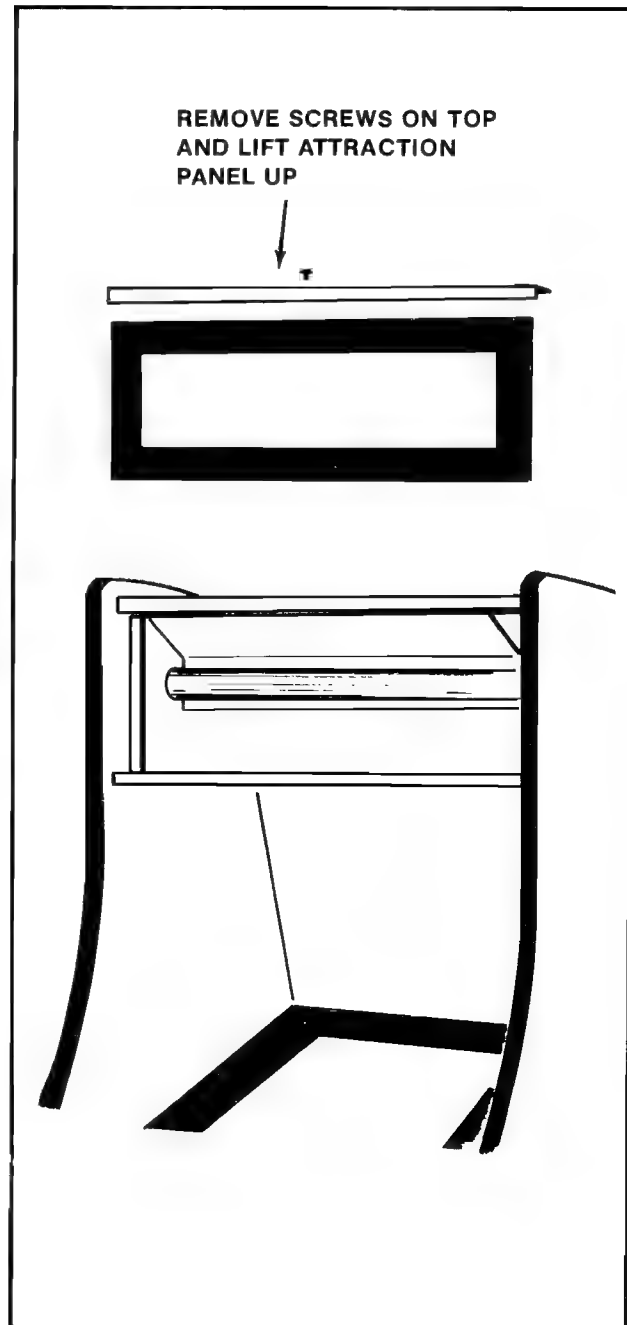

Figure 3-14 Opening the Attraction Panel — Upright
1. UPRIGHT MODEL: See Figure 3-14.
Remove the screws which secure the top bracket in place. (They are on its top side.) See Figure 3-14.